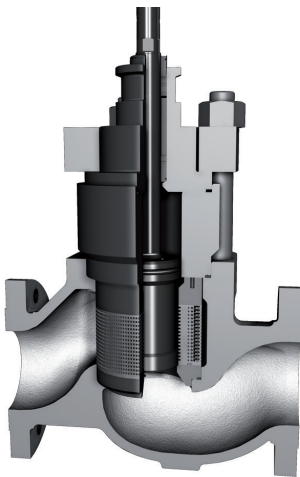

Figure 10: Mark One with Stealth Trim Body Assembly
8.5.1 Stealth replaces the standard Mark One retainer with a braided, stacked-disk retainer, see Figure 10. Several of the parts, including the plug, seat ring and bonnet have dimensional differences from the standard Mark One design. Assembly and disassembly of the valve follows the standard procedures.